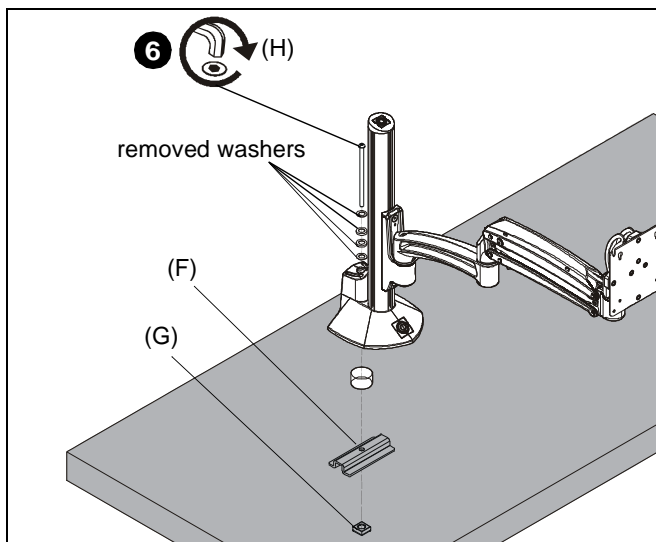

**Figure 5**
1. Remove desk clamp from mount by loosening button head cap screw until clamp is completely disengaged from the bolt. (See Figure 5)
2. Maneuver clamp so that it is totally removed from desk mount. (See Figure 5)